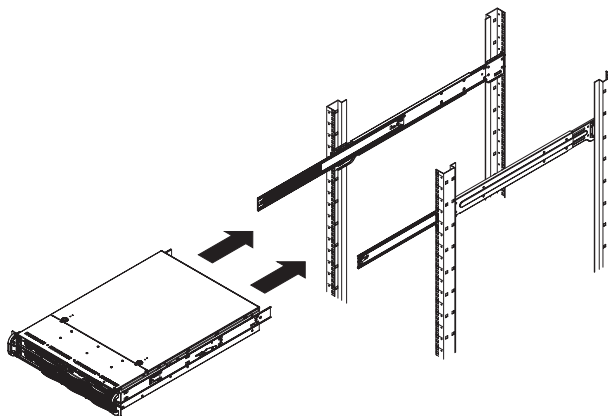

Figure 2-2 Installing the Server in a Rack
You should now have rails attached to both the server chassis and the rack unit. The next step is to install the server into the rack (refer to Figure 2-2).
1. Extend the outer rails as shown in Figure 2-2.